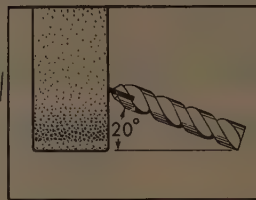

FIG. 1
(1) Bring the drill against the side of the grinding wheel at a 20-deg. angle as shown in Fig. 1. This 20-deg. angle should be maintained, otherwise the drill will not cut properly.